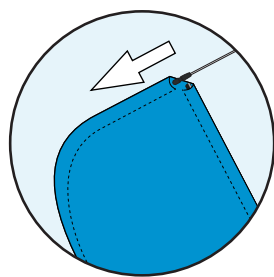

Fig 6.
5. Join the two pieces of carbon fibre rod together. Feed the carbon fibre rod into the top of the sleeve on the curved edge, black tip end first. (Fig 6)